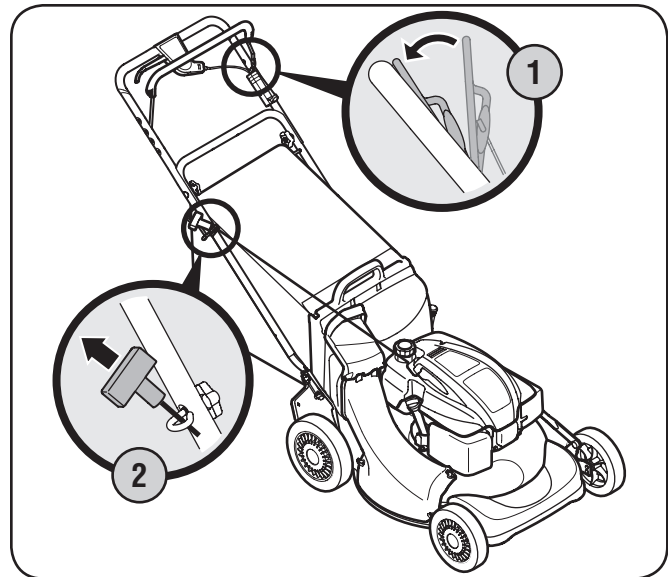

Figure 5-1
2. Pull the starter grip lightly until resistance is felt, then pull rapidly to overcome compression, prevent kickback and start engine. Repeat if necessary. See Fig. 5-1.